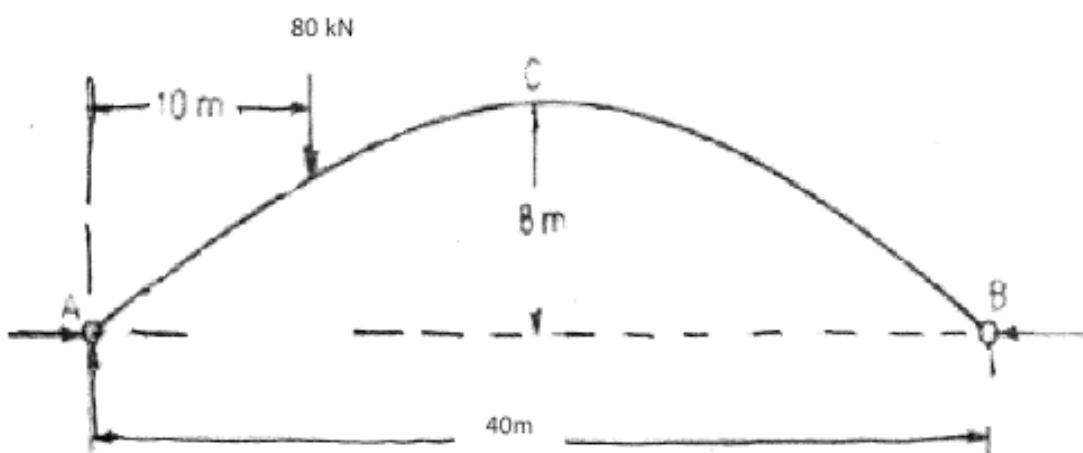

Fig.6b
- b) A two hinged parabolic arch of span 40 m and rise 8 m carries a point load of 80 kN at a distance of 10 m from the left support. Find the horizontal thrust at each support. Find also the maximum bending moment. Refer Fig. 6b